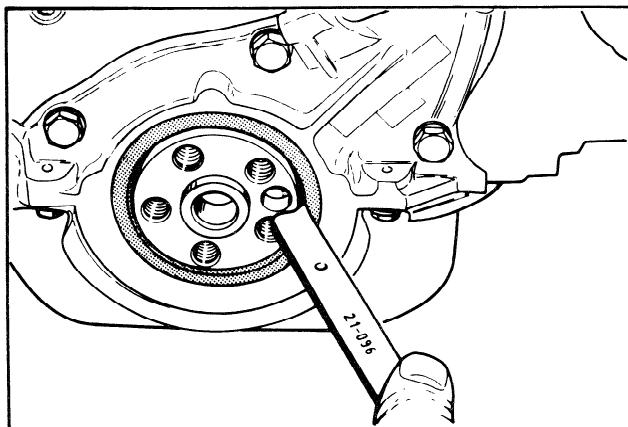

FIG. 42 Rear Crankshaft Oil Seal Removal
3. Remove the rear oil seal using tool 21-096 (Figure 42).